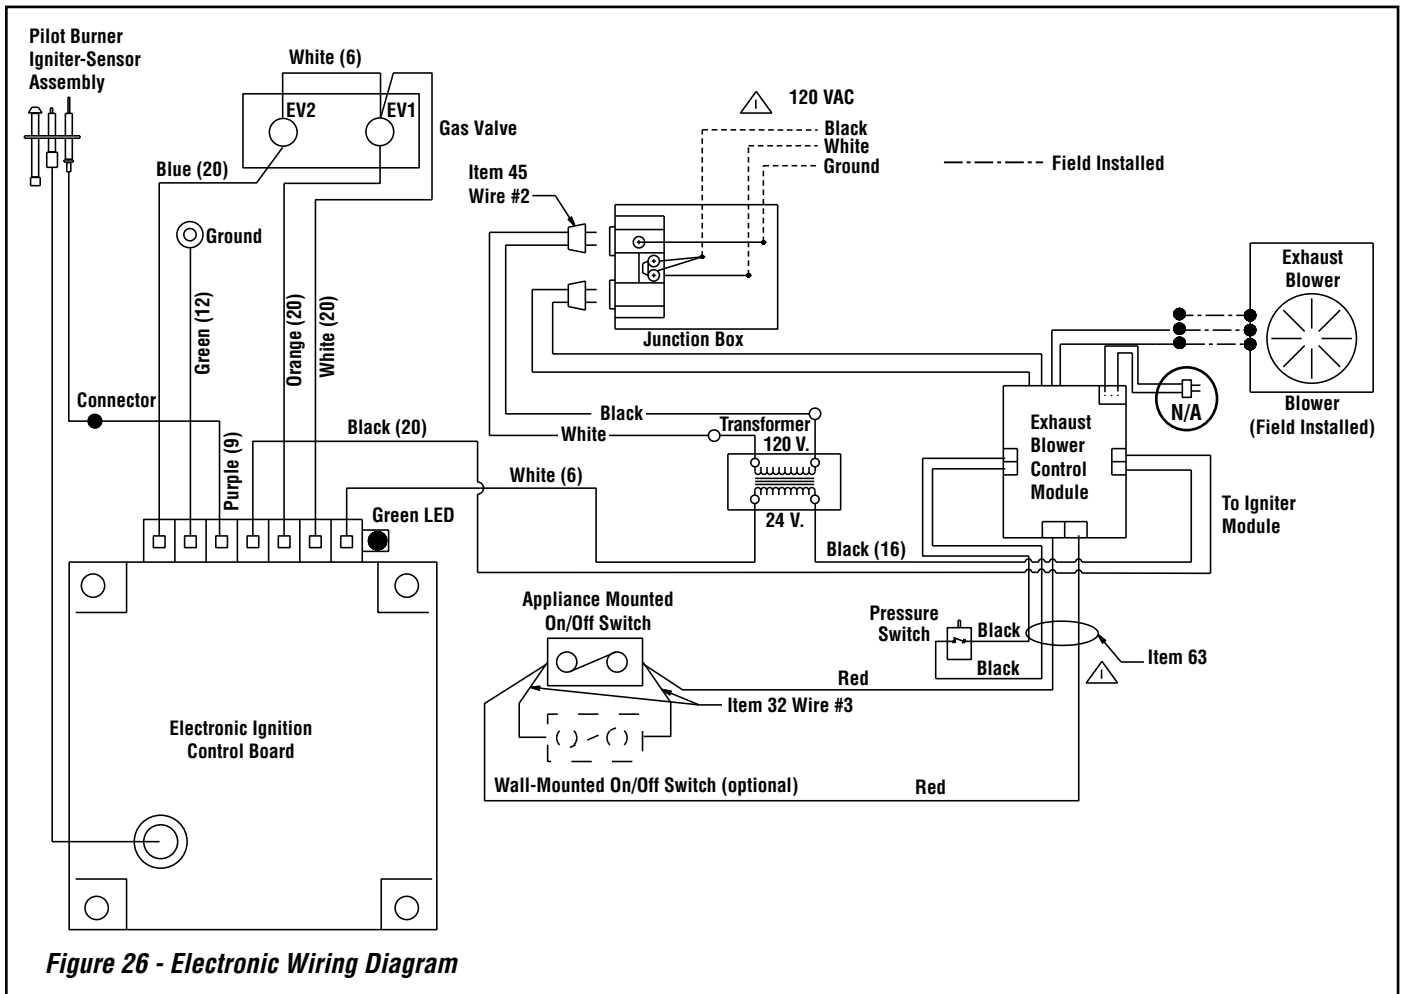

Figure 26 - Electronic Wiring Diagram
CAUTION: Ground supply lead must be connected to the wire attached to the green ground screw located on the outlet box. See Figures 26 and 27 on Page 20. Failure to do so will result in a potential safety hazard. The appliance must be electrically grounded in accordance with local codes or, in the absence of local codes, the National Electrical Code, ANSI/NFPA 70-latest edition.
Wiring - Fireplace (See Figures 26 and 27 on Page 20)
4. Connect the black power supply wire to the power outlet's red pigtail lead and the white power supply wire to the common terminal of the outlet as shown in Figures 26 and 27 on Page 20.
8. If an optional control is to be used, wire it in the low voltage circuit (see Figure 26 on Page 20).
- Refer to Figure 26 and install the electrical hardware on the fireplace end of the Romex wiring. Male terminals (#10) on the Black and White wires, and ring terminals (#9) on the ground wire. The termination end of the Romex will be connected to the termination with wire nuts (not provided).